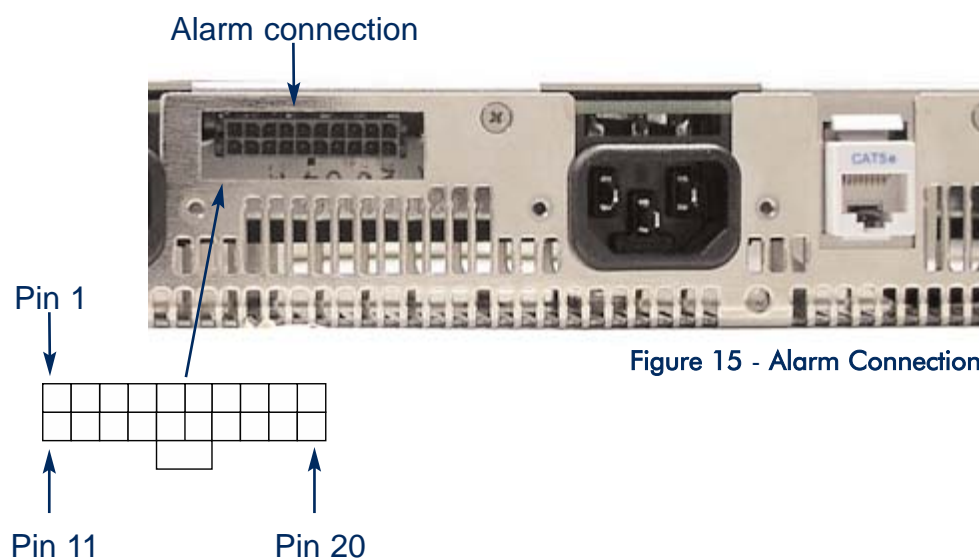

Figure 15 - Alarm Connection
- The pin out of the alarm connector on the shelf is a 180° different from a standard Molex connector, see Figure 15.